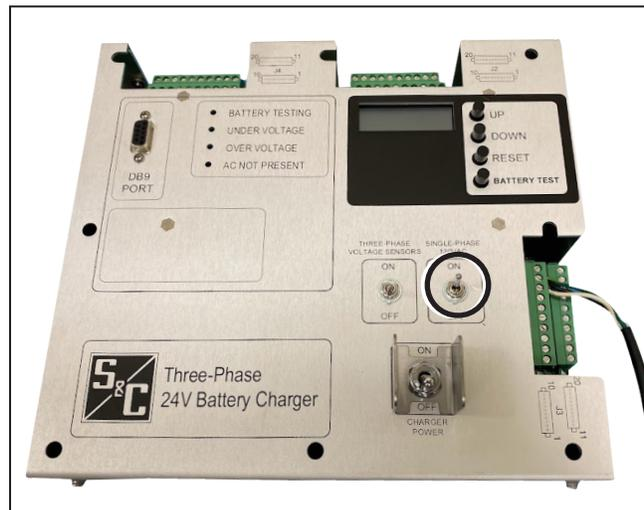

Figure 20. The SINGLE-PHASE 120 VAC power switch in the On position.
- STEP 6.** Turn the SINGLE-PHASE 120 VAC power switch to the **On** position. See Figure 20 on page 18.